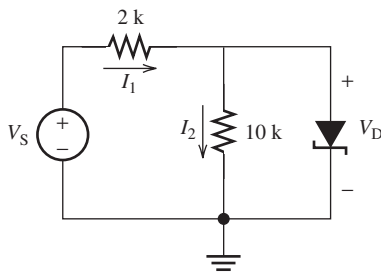

FIGURE P8.24 Circuit of the Zener diode.
- 8.24** (A) Given that $V_z = 5.5$ V, find I_1 and I_2 in the circuit shown in Figure P8.24 when: